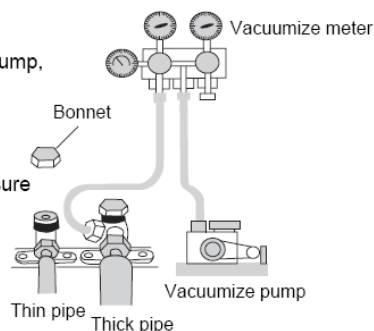

Fig.11-11
- If it is possible, exhaust air in unit from gas core by vacuumize pump (fig.11-11).